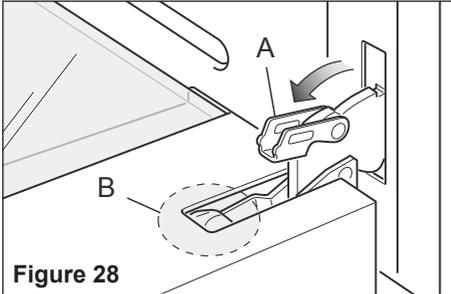

Figure 28
- Open the lever "A" completely on the left and right hinges (fig. 28).
- Gently close the door until left and right hinge levers "A" are hooked to part "B" of the door (figs. 28, 29).
- Open the lever “A” completely on the left and right hinges (fig. 28).
- Gently close the door until left and right hinge levers “A” are hooked to part “B” of the door (figs. 28, 29).